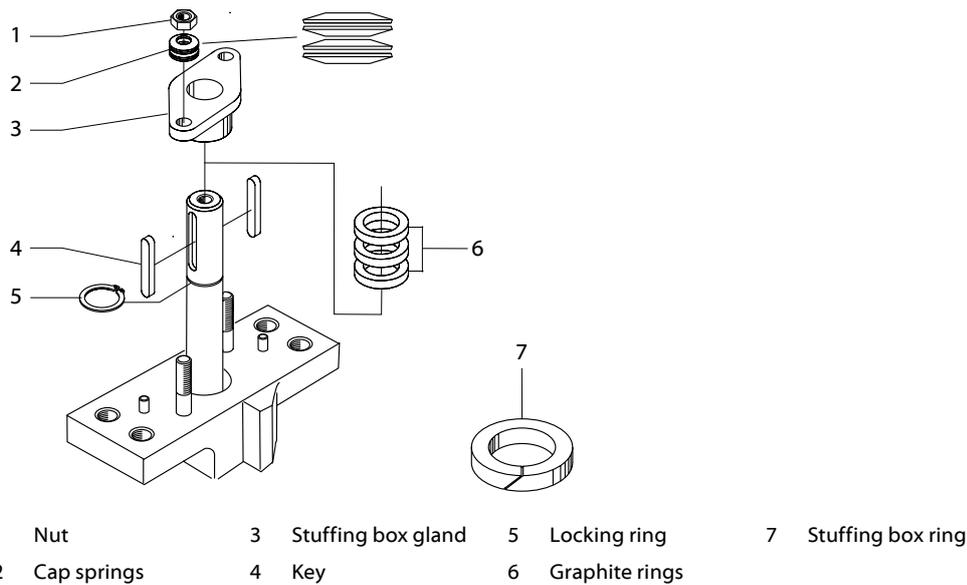

Fig.6-2 Assembly of the stuffing box
1. Check the stuffing box after commissioning and then regularly. Retighten the nuts of the stuffing box gland (→ Fig.6-2/1) if necessary.
Cap springs (→ Fig.6-2/2) and locking ring (→ Fig.6-2/5) are not available for the DN 25–50 valves.
1. Remove the key/keys (→ Fig.6-2/4). For DN 80–400 valves, remove the locking ring (→ Fig.6-2/5) as well.
2. Remove the nuts (→ Fig.6-2/1), the stuffing box gland (→ Fig.6-2/3) and for DN 80–400 valves, the cap springs (→ Fig.6-2/2). Note how the cap springs are mounted.
4. Using the stuffing box gland, add the new compressed moulded graphite rings (→ Fig.6-2/6) one-by-one. The number of rings added will depend on the valve size. The top ring should be at the same level as or slightly below the upper section of the actuator mounting flange.
1. Cut the stuffing box ring (→ Fig.6-2/7) diagonally.